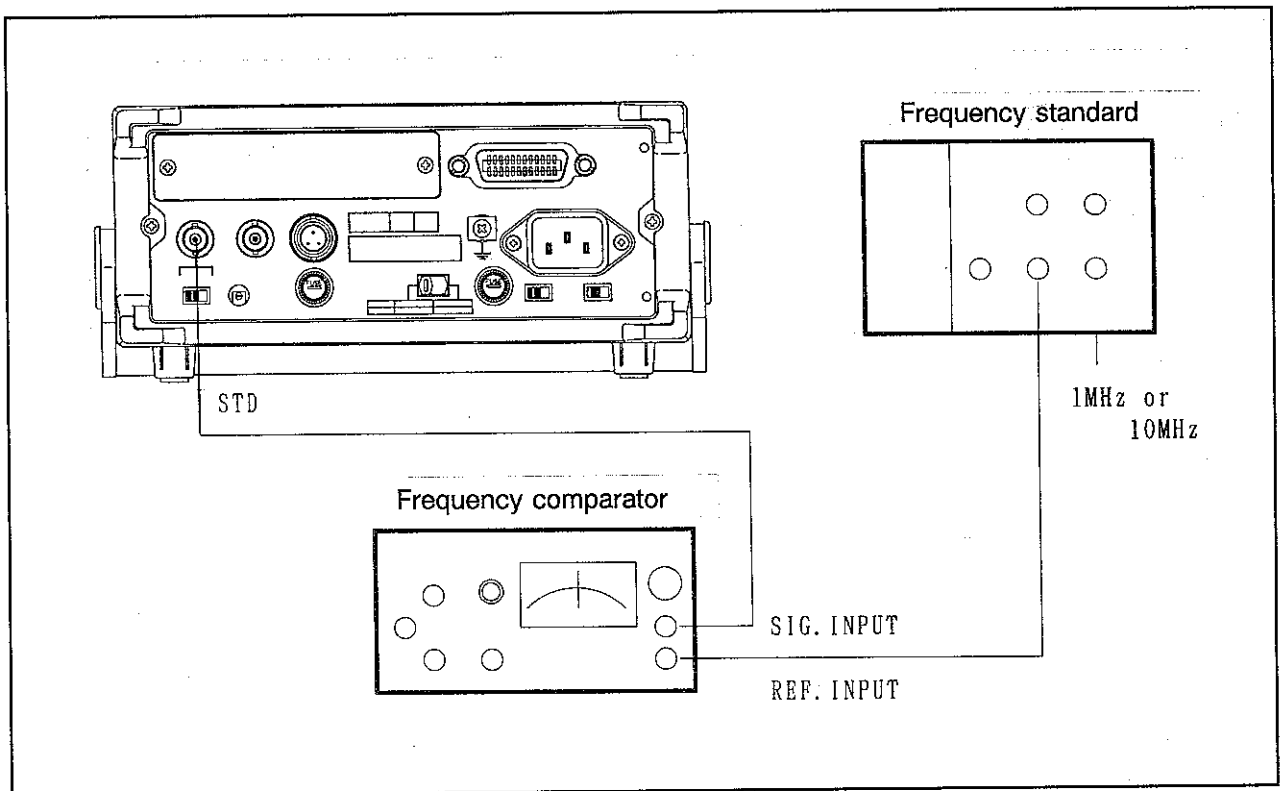

Figure 10-1 Calibrating method by the standard
- (1) Keep the specified pre-heating time for the calibration devices.
- (2) Set STD INT OUT/EXT IN selection switch (slide type switch) on the rear panel of the counter to INT OUT and connect STD input/output connector (BNC connector) to the signal input connector of the frequency comparator through the cable (see Figure 10-1).
- (3) Connect the output connector of the frequency standard with the reference signal input connector of the frequency comparator through the cable (see Figure 10-1).